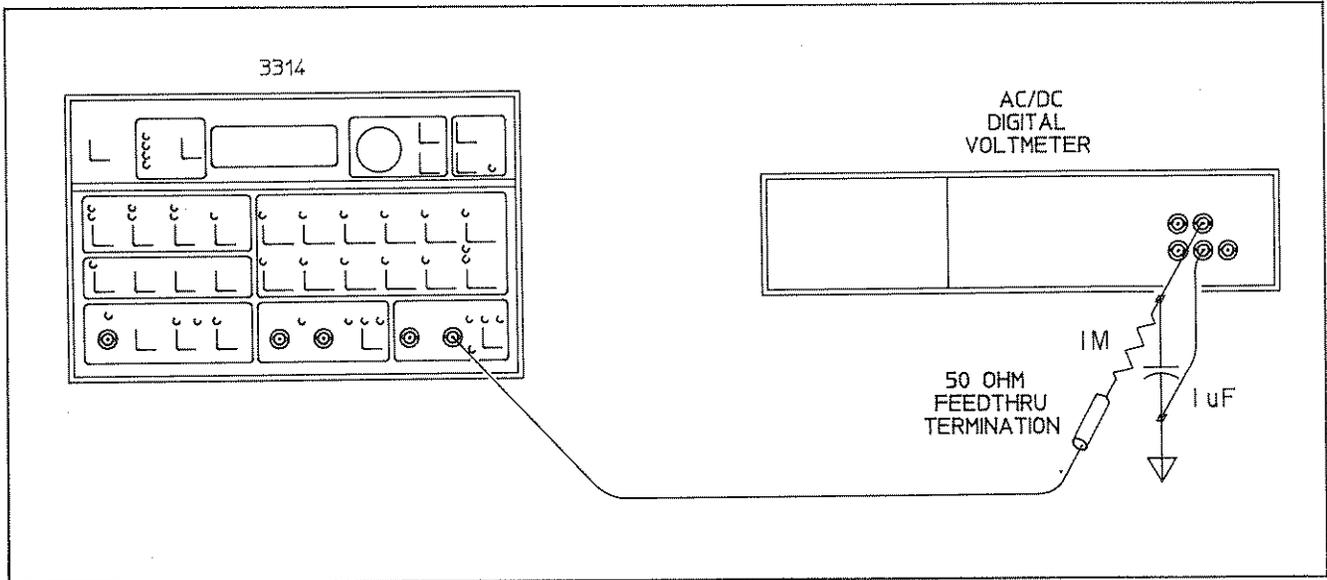

Figure 4-7. Residual and Variable DC Offset Accuracy
D. Connect the 3314A to the Digital Voltmeter as shown in Figure 4-7.